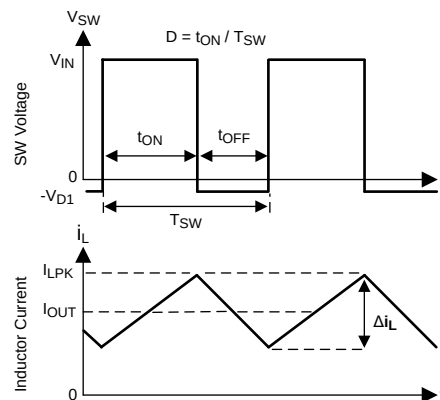

**Figure 25. SW Node and Inductor Current Waveforms in Continuous Conduction Mode (CCM)**
The following operating description of the LM43602 will refer to the Functional Block Diagram and to the waveforms in Figure 25. The LM43602 is a step-down Buck regulator with both high-side (HS) switch and low-side (LS) switch (synchronous rectifier) integrated. The LM43602 supplies a regulated output voltage by turning on the HS and LS NMOS switches with controlled ON time. During the HS switch ON time, the SW pin voltage  $V_{SW}$  swings up to approximately  $V_{IN}$ , and the inductor current  $i_L$  increases with a linear slope  $(V_{IN} - V_{OUT}) / L$ . When the HS switch is turned off by the control logic, the LS switch is turned on after a anti-shoot-through dead time. Inductor current discharges through the LS switch with a slope of  $-V_{OUT} / L$ . The control parameter of buck converters are defined as Duty Cycle  $D = t_{ON} / T_{SW}$ , where  $t_{ON}$  is the HS switch ON time and  $T_{SW}$  is the switching period. The regulator control loop maintains a constant output voltage by adjusting the duty cycle  $D$ . In an ideal Buck converter, where losses are ignored,  $D$  is proportional to the output voltage and inversely proportional to the input voltage:  $D = V_{OUT} / V_{IN}$ .